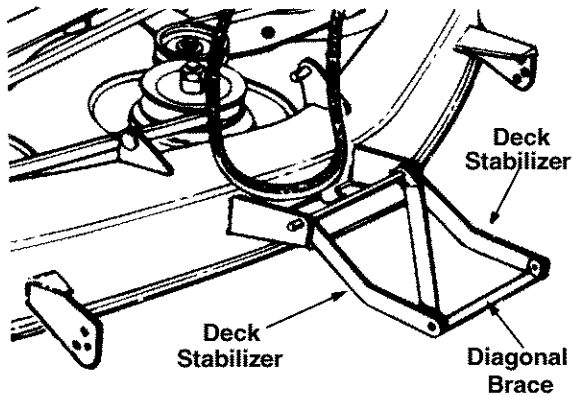

Figure 9
- The two deck stabilizers and the diagonal brace which are attached to the front of the deck are folded back over the deck for shipping purposes. Unfold them at this time. See Figure 9.